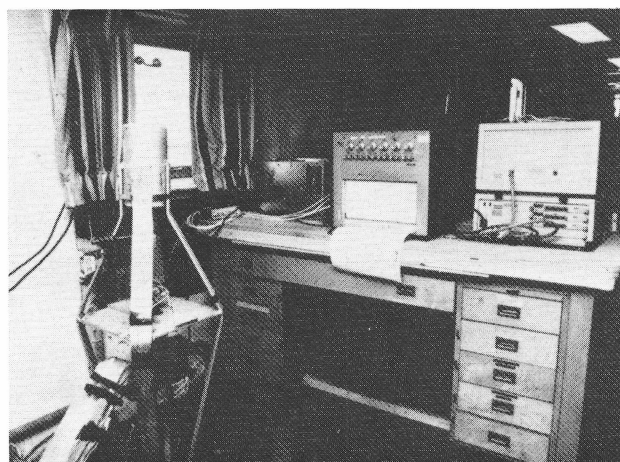

Figure 2
J. Dessureault (see Fig. 2). The software provided (program Write/Read) wrote 100 sectors onto the disk and then read the 100 sectors in a verification process. Any errors were reported on the H.P. printer. The other program "exercised" the disk by creating seeks (seeking between cylinders), which caused the head to move vigorously. This program was implemented when the ship was in rough seas. Shutdowns were also executed under these conditions in order for the head to return to the landing area of the disk. The disk drive was then immediately started up to see if it would come up to its optimum r.p.m. in spite of the ship's heave, roll, and vibration. The diagnostic programs were then run to show that the disk was operating at 100% efficiency. The Hewlett-Packard routines were implemented in order to check if the disk had any track errors. The controller circuitry in the Hewlett-Packard 7914 can "heal" disk damage to a certain extent. The controller sends the head over the whole disk surface when the disk starts up. In this process, it finds flawed sectors where data cannot be stored reliably, marks them so that future data will not be stored there, and moves endangered data to safer locations. This is done by writing endangered data on spare tracks. The H.P. 7914 has eight tracks that are used for effective track allocation and two that are used for maintenance tracks. In addition, it has two tracks reserved for future use.